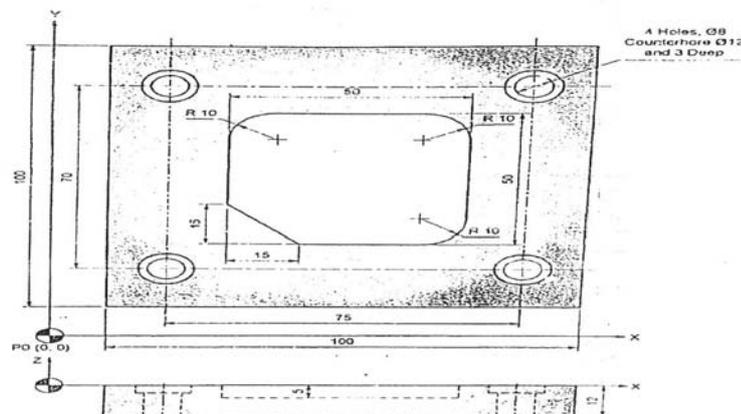

fig. 4a
- Q4) a)** Write a manual part program to machine the contour for the component shown in fig. 4a. and drill a hole. The thickness of component is 18mm. Assume suitable data. **[12]**